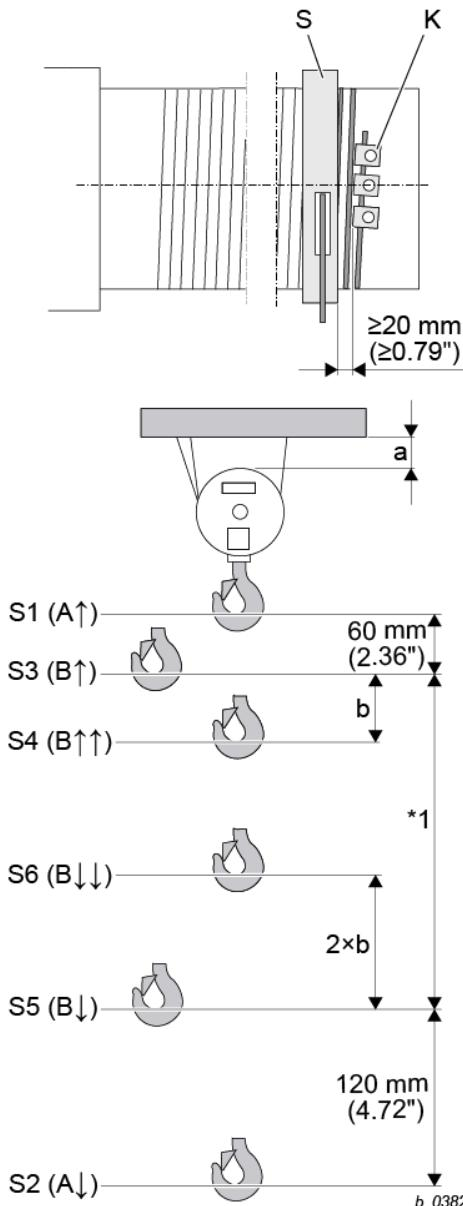

Fig. 82
1. Lower bottom hook block to **0.39** in. above desired hook position, if necessary turn setscrew (S5) to the left beforehand. Observe minimum clearance, see Fig. 82.
1. Lift bottom hook block by **2xb**, see Fig. 82, Tab. 35+Tab. 36.